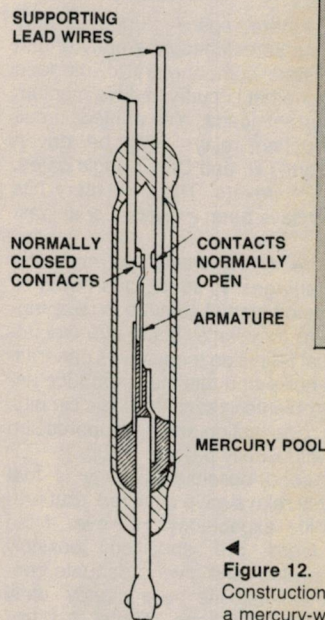

Figure 12. Construction of a mercury-wetted relay.
**Reed Relays:** reed relays are a type of relay in which flat metal blades, often sealed within a glass tube, triple as armatures, springs, and conductors. Some even act as the contacts too (Figure 12).